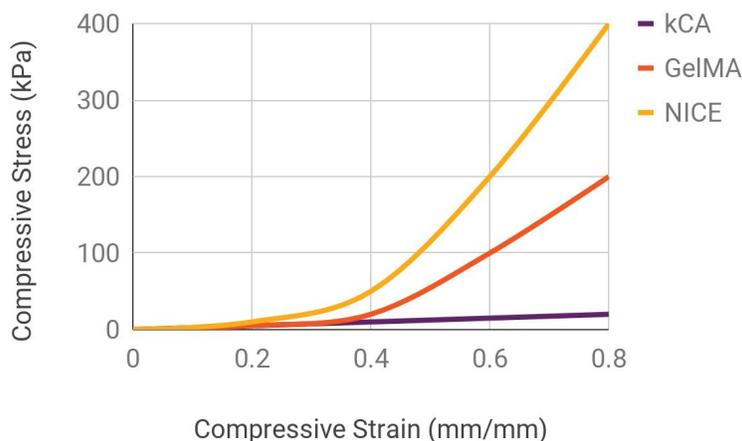

Figure 4. Polymer Strengths. The relative strengths of the individual polymers used compared to the combined NICE bioink when undergoing stress.
In the Science Bite, the scientists used these two different polymers to change the strength and flexibility of the NICE bioink. **Figure 4** shows that relative strengths of the polymers and the NICE Bioink by measuring the amount of strain (how far in mm the polymer is squished per mm of polymer) when a particular amount of stress (pressure) is applied.
7. The Bite states that the NICE polymer is the strongest. How does the data from **Figure 4** support that conclusion?